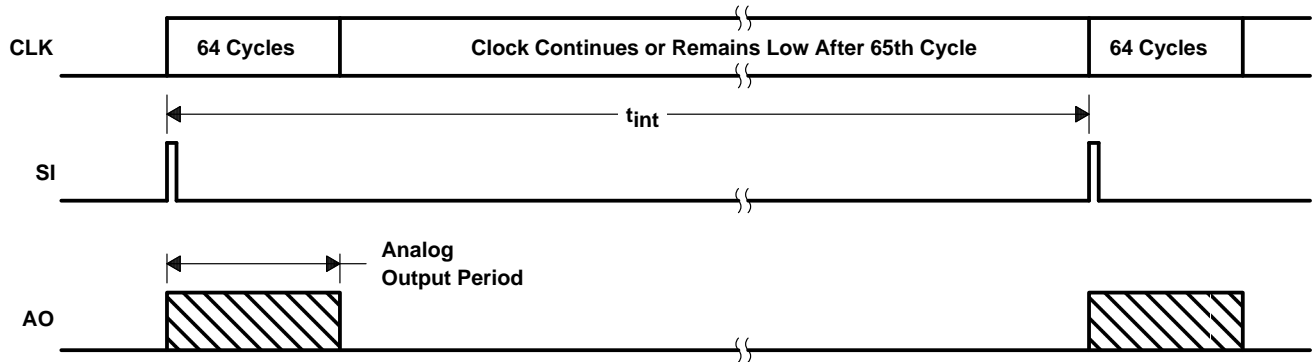

Figure 1. Timing Waveforms
Operation of the 64 × 1 array sensor consists of two time periods: an integration period during which charge is accumulated in the pixels and an output period during which signals are transferred to the output. The integration period is defined by the interval between serial-input (SI) pulses and includes the output period (see Figure 1). The required length of the integration period depends upon the amount of incident light and the desired output signal level.
The output period is initiated by the presence of the SI input pulse coincident with a rising edge of CLK (see Figures 1 and 2). The analog output voltage corresponds to the level of the first pixel after settling time ( $t_s$ ) and remains constant for a minimum time,  $t_v$ . A voltage corresponding to each succeeding pixel is available at each rising edge of the clock. The output period ends on the rising edge of the 65th clock cycle, at which time the output assumes the high-impedance state. The 65th clock cycle terminates the output of the last pixel and clears the shift register in preparation for the next SI pulse. To achieve minimum integration time, the SI pulse may be present on the 66th rising edge of the clock to immediately reinitiate the output phase. When the output period has been initiated by an SI pulse, the clock must be allowed to complete 65 positive-going transitions in order to reset the internal logic to a known state.